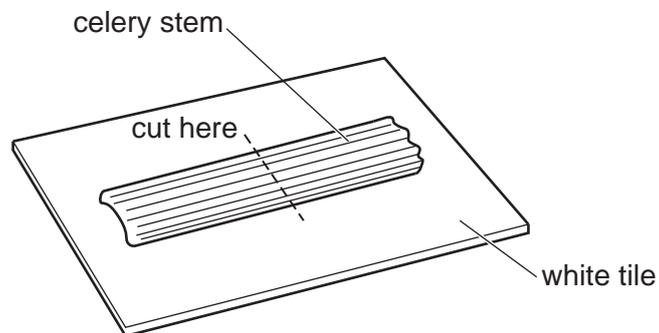

Fig. 1.1
- Take the piece of celery and cut it approximately in half as shown in Fig. 1.1.